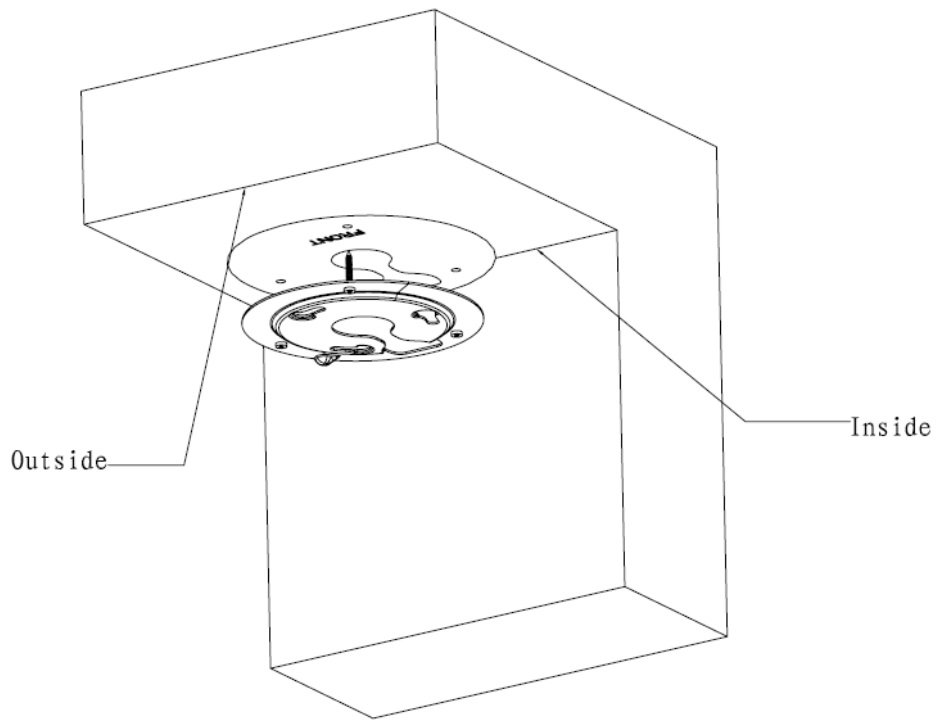

Figure 4-2
- 3) Turn three quick installation screws to the screw holes at the bottom of the pedestal. Pull the cable through according to your cable exit mode. Use three self-tapping screws to secure the sheet metal on the ceiling. Insert the screws to the expansion bolts. See Figure 4-2.